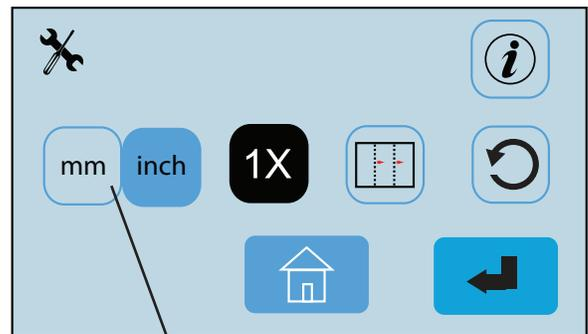

Fig. 37
1. From the Operator Settings screen (Fig. 36) press the measurement setting icon  (Fig. 37) to change between settings. The icon highlights in blue is the selected setting. By changing this setting the paper sizes will change from standard to metric or vice versa.